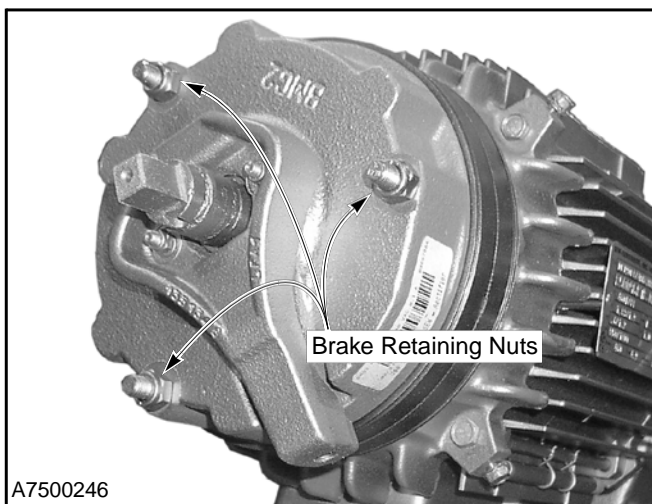
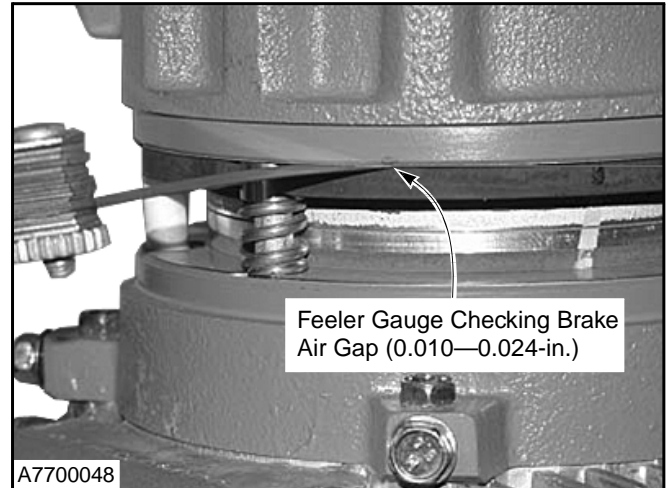

Figure 41
Figure 42
4. Using a feeler gauge and a nut driver, adjust the retaining nuts until you achieve the proper air gap (0.010–0.024-in.). (See Figure 41 and Figure 42)